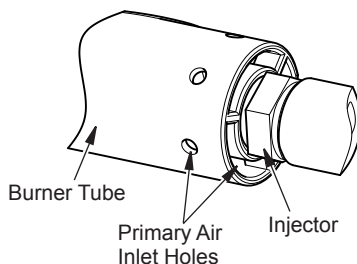

Figure 39 - Burner and Injector Holder
2. Inspect burner, pilot and primary air inlet holes on injector for dust and dirt (see Figure 39).